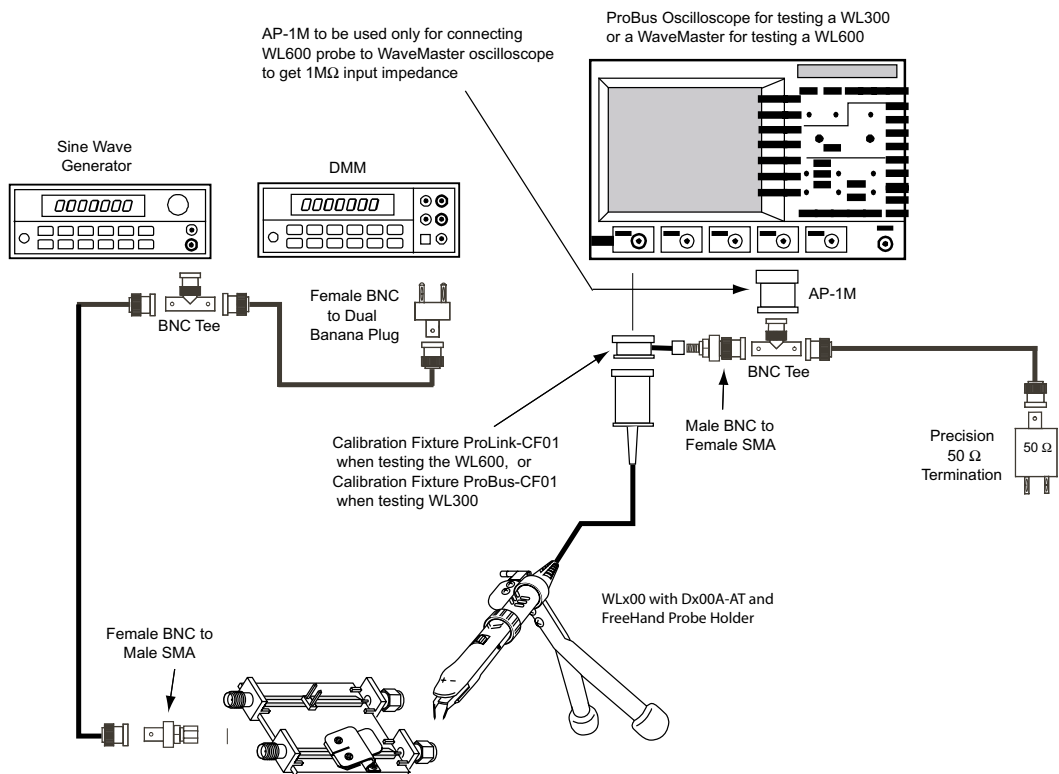

Figure 8-2. WLx00 with a Dx00A-AT Measuring Input Voltage.
- a. Connect the male end of a BNC Tee to the Sine Wave Generator output. Refer to figure 8-2 for set up. Set the generator's output voltage to 0 Volt.
- h. For the WL600 connect a BNC to SMA adapter to the SMA output connector of the ProLink-CF01 Calibration Fixture and the BNC end to a BNC Tee. Figure 8-2.
- a. Unplug the Precision 50 Ω Terminator and BNC cable from the DMM and reconnect the BNC cable with the BNC to Banana Plug Adapter to the DMM input. Figure 8-2.